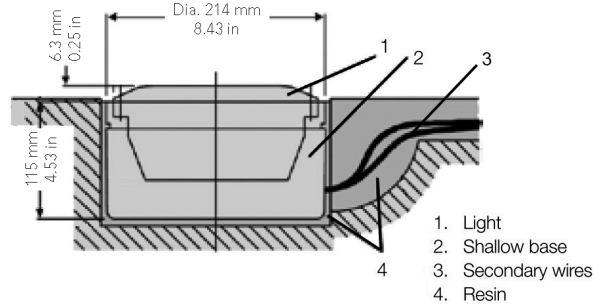

Fig. 6: Installation on 8" shallow base
1) On a shallow base (Fig. 6).